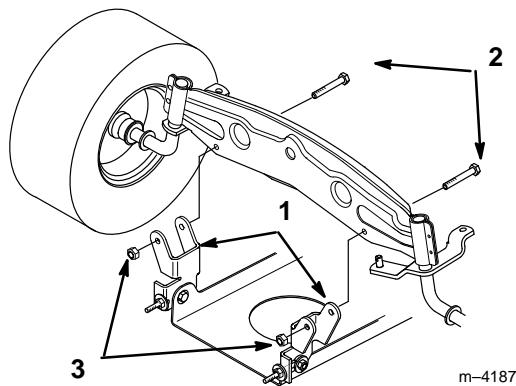

Figure 40
9. Remove the bolts and lock nuts and pull the two mower pivot mount brackets down from the front axle (Fig. 40).